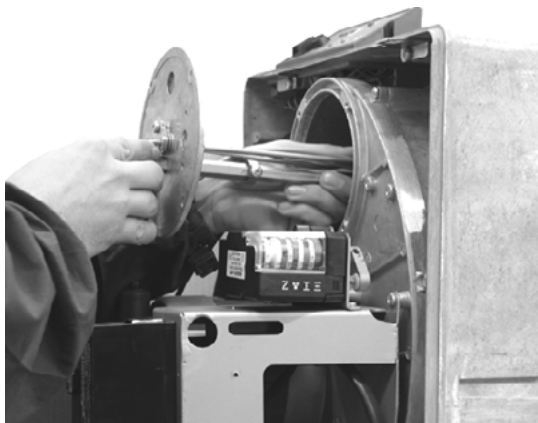

Fig. 55
- Remove the combustion head from its housing as shown in Fig. 55.